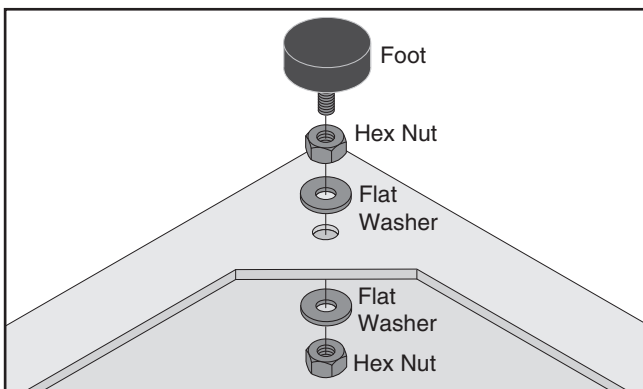

Figure 11. Stand foot installed (1 of 4).
3. Install the stand feet, as shown in **Figure 11**, in the bottom of the stand assembly, using a $\frac{3}{8}$ "-16 x 2" stand foot, (2) $\frac{3}{8}$ "-16 hex nuts and (2) $\frac{3}{8}$ " flat washers on each foot in the sequence shown.